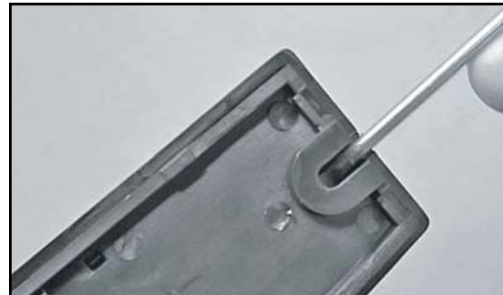

Fig. 1. Insert small screwdriver and pry upwards
1. Remove the cover of the ZPS-100 by placing the blade of a small screwdriver in the notch in the right side of the cover as shown (Fig 1). Once the sensor is attached to the header always remove the cover in this same manner.